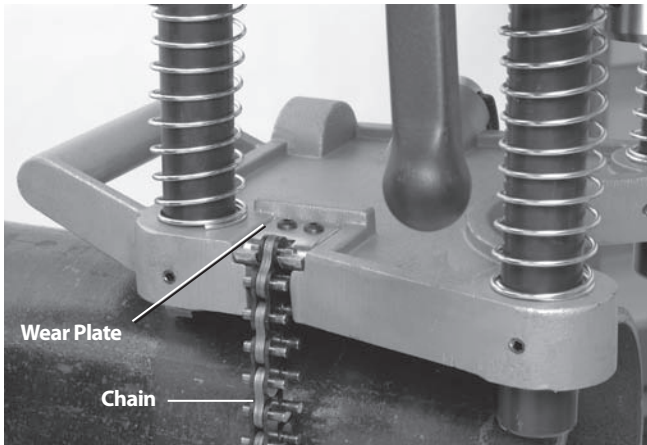

Figure 5 – Hooking the HC-450 Chain
3. Always keep at least one hand on the Hole Cutting Tool to stabilize and guide it. Grasp the end of the chain and pull it snugly around the pipe. Hook the closest chain pin on the wear plate and firmly tighten the swivel handle to hold the Hole Cutting Tool to the pipe. (See Figure 5.)